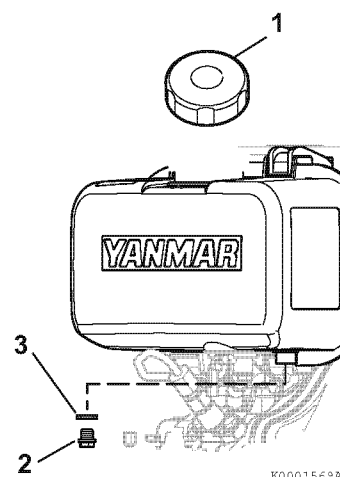

Figure 8
2. Remove the fuel cap (1, **Figure 8**).
3. Remove the fuel tank drain plug (2, **Figure 8**) and gasket (3, **Figure 8**) to drain the fuel.
4. Tighten the fuel tank drain plug (2, **Figure 8**) with new gasket (3, **Figure 8**).
5. Refill fuel tank. Replace the fuel cap (1, **Figure 8**) and hand tighten. Overtightening the fuel cap will damage it.